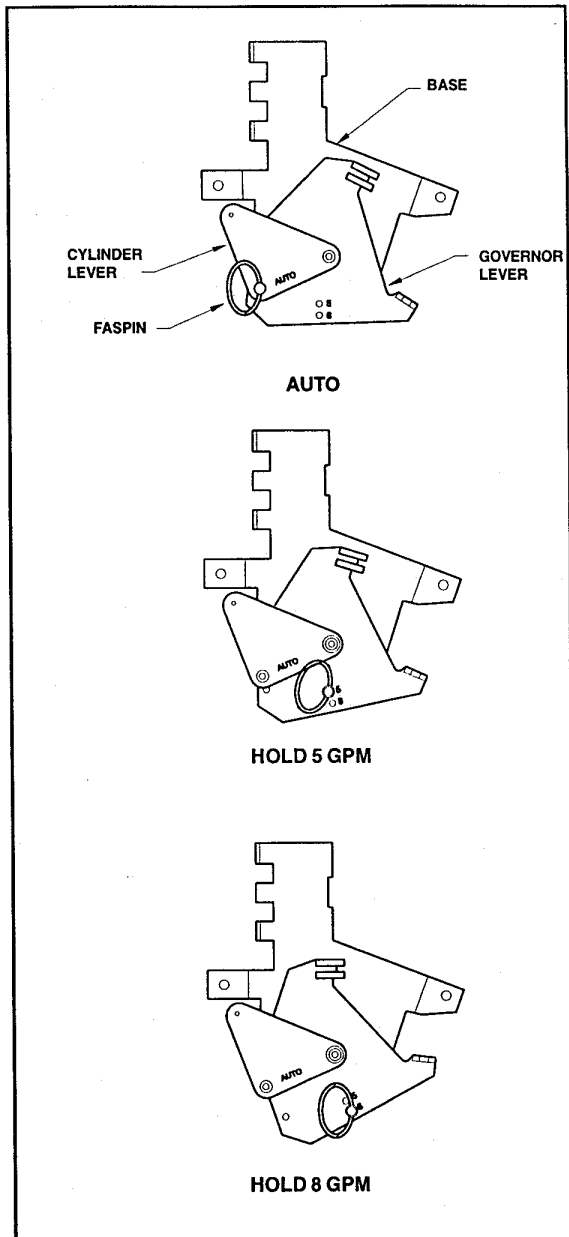

Figure 2. Throttle Control Settings
### 6. THROTTLE CONTROL (See Figure 2)
2. Select the "AUTO" throttle operating mode by positioning the governor lever to the cylinder lever and inserting the faspin as shown in figure 2.
If it is necessary to remove the valve assembly, the fuel tank must first be removed in order to gain access to the hose fittings and wiring located on the back of the panel. Otherwise, many components of the panel and valve can be serviced by removing the grille (11, fig. 2).
1. Remove both battery connections and the battery strap (42, fig. 2) and remove the battery.
4. Remove the throttle cable connection (50, fig. 2) at the engine.
8. Remove the four capscrews (30, fig. 1 & 45, fig. 2) holding the engine to the frame and then push the engine forward, away from the pump.